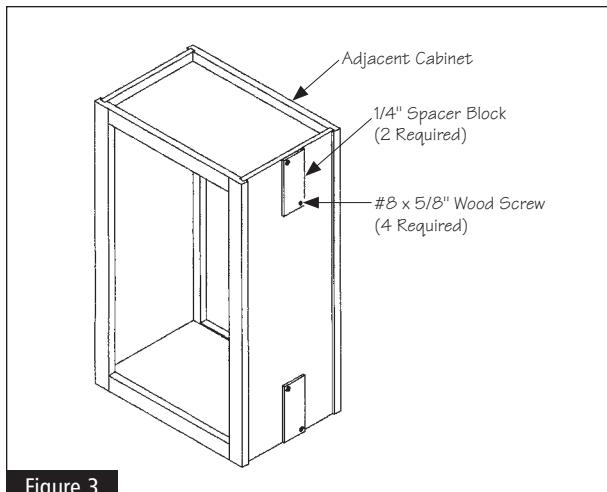

Figure 3
- 1** Skip to Step #2, if you will be attaching your SEW to a 3/4" thick Side Panel. Determine which side of the adjacent peninsula cabinet the two SEW's will be mounted to. Cut the 1/4" wood spacer in half and attach to the side panel of the adjacent cabinet. Spacer should be centered from front to back on the side panel. Drill and countersink two 3/32" diameter pilot holes through each spacer and attach the spacers to the cabinet side panel using two #8 x 5/8" wood screws for each spacer. Make sure the screw head is flush with spacer surface. See Figure 3.